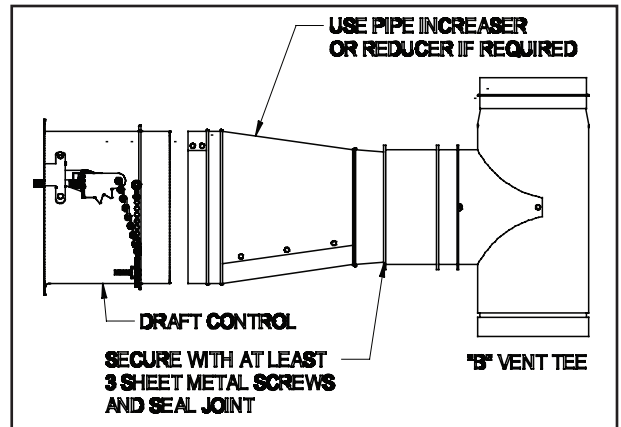

Figure 6
1. Install a vent pipe reducer or increaser into the inner pipe and fasten using sheet metal screws. (See Figures 6 & 7)
Insert the draft control into the collar or tee. The front face of the control **MUST** be plumb and the bearing surfaces **MUST** be level whether the control is on a horizontal, vertical or sloping flue pipe. Use a spirit level and level accurately. (See Figures 6 & 7) Secure the control in the collar by tightening the clamping screws. If a tee is used or a collar is supplied locally, the control may be held in place by sheet metal screws.